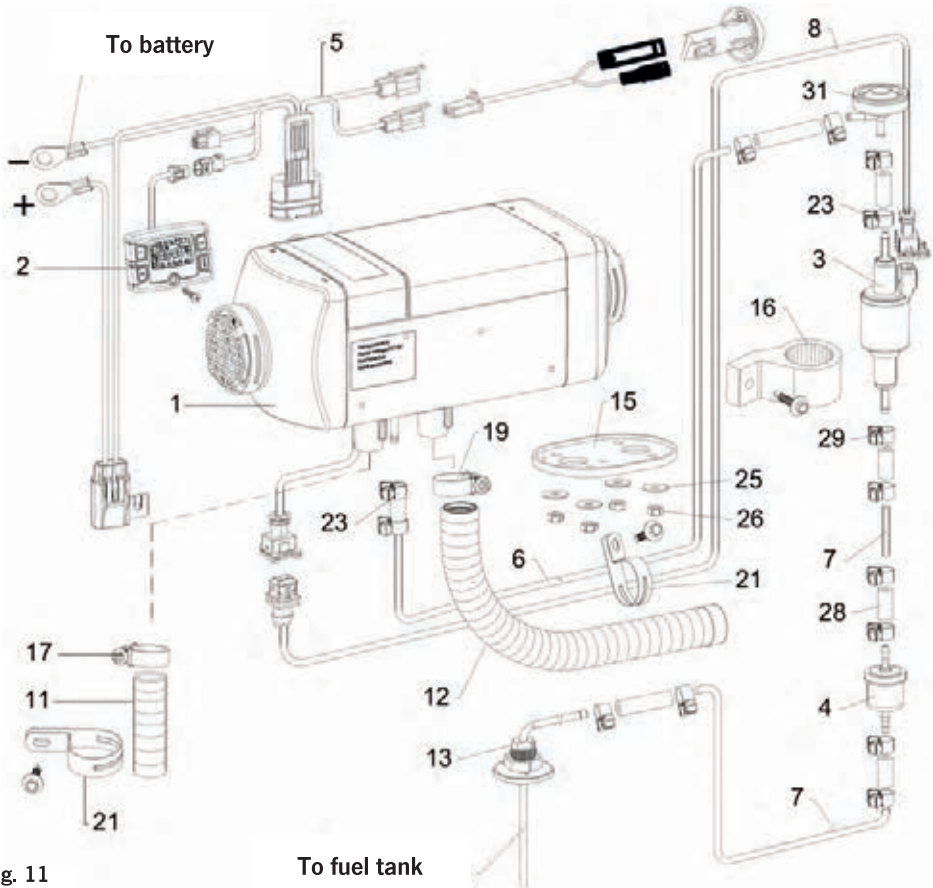

Fig. 11
26. VanHeat 2.0-DH | Product information | Spare parts list (See Fig. 11)